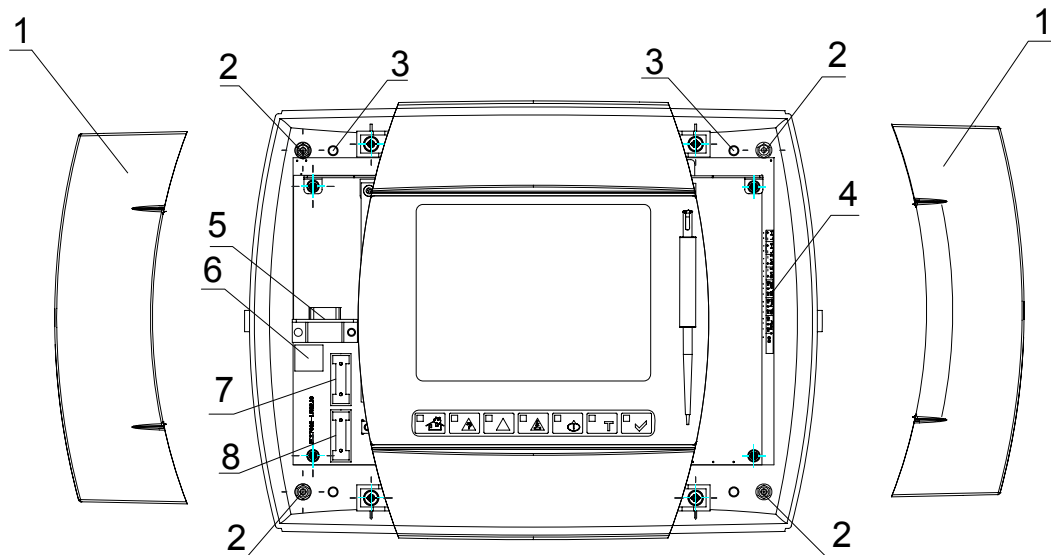
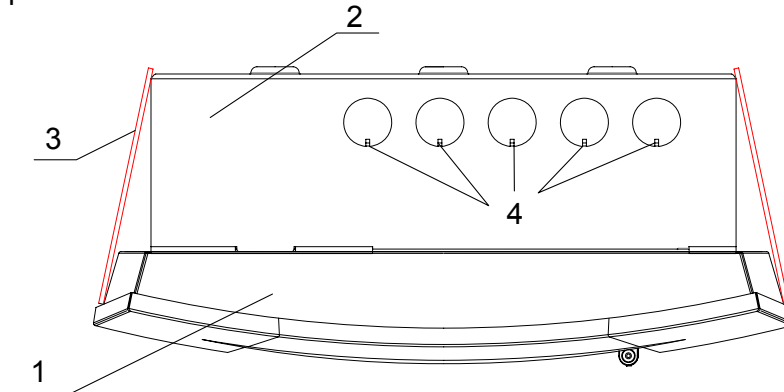
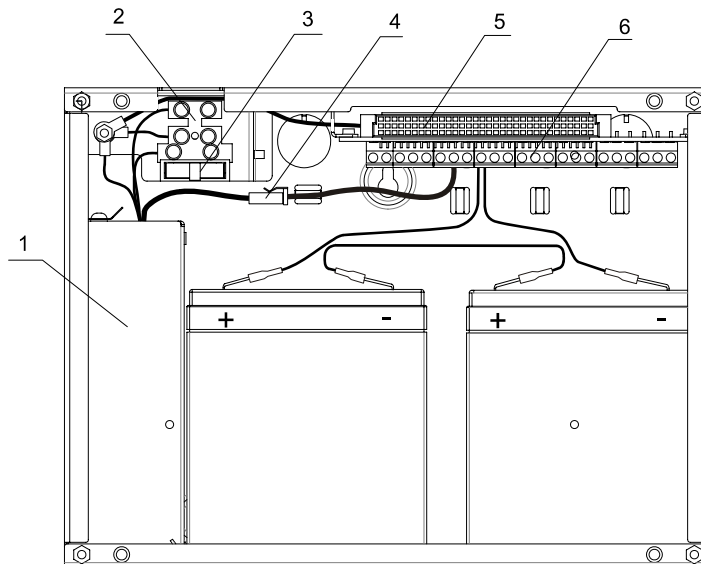

Fig.3
Fig.4
Fig.5
- Remove the decorative covers (pos.1, fig.3);
- Take off the two fuses (pos.7 and pos.8, fig.3)
- Unscrew the four fixings (pos.2, fig.3);
- Carefully follow the leading guides (pos.3, fig.3), dismantle the panel (pos.1, fig.4) from the bottom (pos.2, fig.4);
- Bore part of the vacant spaces (pos.4, fig.4) on the bottom for passing the fire alarm loop cables, the peripheral devices and others.
- Join the wires of the peripheral devices (item 17.2) and the loop (item 17.4) to the bus terminal (pos.6, fig.5);
- Connect the bus terminal (pos.6, fig.5) with the power supply unit (pos.1, fig.5) of the Control Panel by means of the coupling (pos.4, fig.5);
- Take off the fuse (pos.3, fig.5) apply the power supply 220V AC (item.16.5);
- Place the fuse (pos.3, fig.5) and supply 220V AC to the supply unit (pos.1, fig.5);
- For surface mounting at the user's request is mounted diaphragm (pos.3, fig.4);
- Mount carefully, following the leading guides (pos.3, fig.3), the panel (pos.1,fig.4) to the bottom (pos.2, fig.4).The connection between the bus terminal and the Control Panel is realized by DIN coupling (pos.5, fig.5);
- Screw the four screws (pos.2, fig.3);
- Place the two fuses (pos.7 and pos.8, fig.3). The Control Panel enters „System operations” ;
- Mount the two decorative covers (pos.1, fig.3);
- Follow the instructions of item 17.
All connections are to be made by means of terminals, mounted on the printed circuit board (pos.6, fig.5). Be advised, that the total consumption of the voltage powering the external devices (terminal “+ 28V”) plus the consumption of the monitored outputs shall not exceed 1A in heavy duty mode.